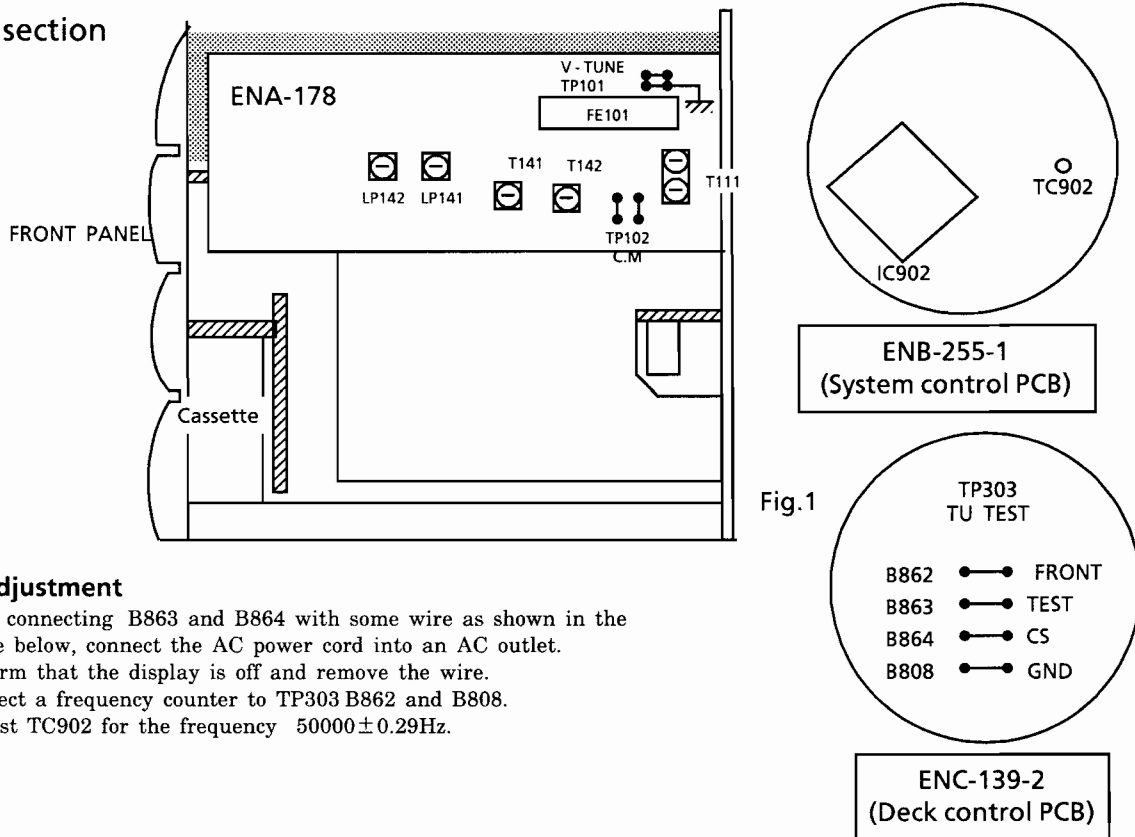

Fig.1
(2) *Life of the laser diode (Fig.1)*
(Fig.1)